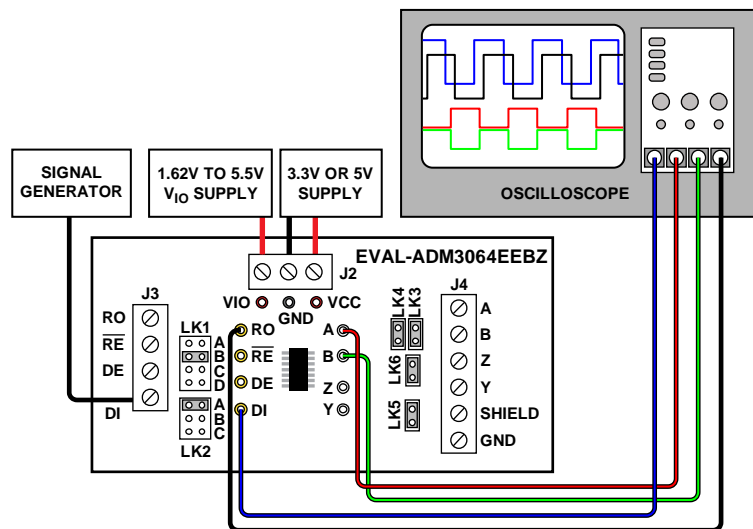

Figure 3. Full Duplex RS-485 Loopback Test
To set up a loopback test for the EVAL-ADM3064EEBZ, connect the benchtop power supply to the VCC and VIO terminals of the J2 connector. Close the LK4 and LK6 jumpers. This test setup is shown in Figure 3. A signal generator is connected to the DI pin to allow verification of the bus signals and the receiver output. Note the jumper positions of LK1 (B) and LK2 (A) for the EVAL-ADM3064EEBZ. Ensure that the LK3 and LK5 jumpers are also closed. The default termination resistors can be used in this configuration because both 120 Ω resistors on the EVAL-ADM3064EEBZ are connected in parallel by the loopback. These connections ensure that the test is conducted with a standard RS-485 load of 60 Ω with the bus terminated at both ends by 120 Ω.